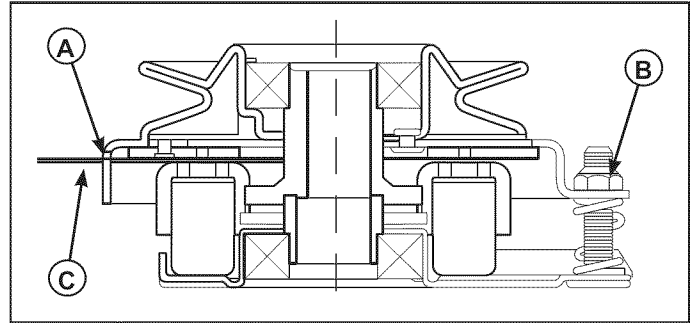

Figure 20. Adjust PTO Clutch
3. Insert a .016"-.018" (0,40-0,45 mm) feeler gauge (C) through each window, positioning the gauge between the rotor face and the armature face as shown in Figure 20.